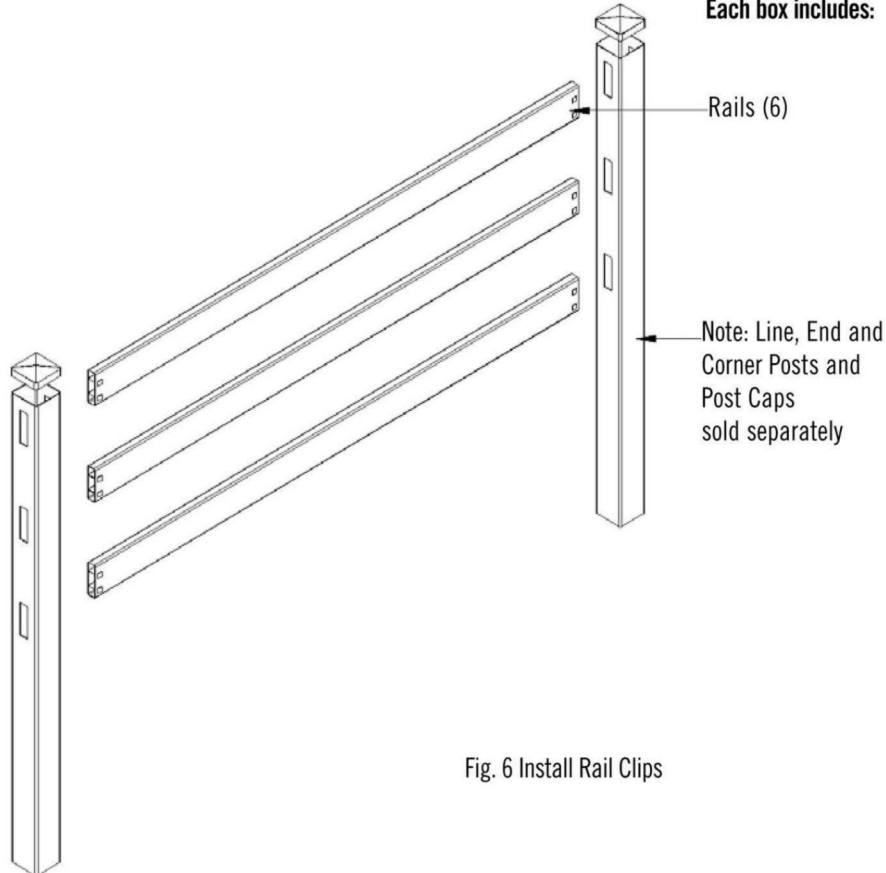

Fig. 6 Install Rail Clips
- a) **Install Rails clips:** Insert supplied rail clips (Fig. 6) into both ends of the rails before inserting rails into posts. If trimming rails is required, drill a 1/2" hole at cut ends to accept the rail clip. (Fig. 6)